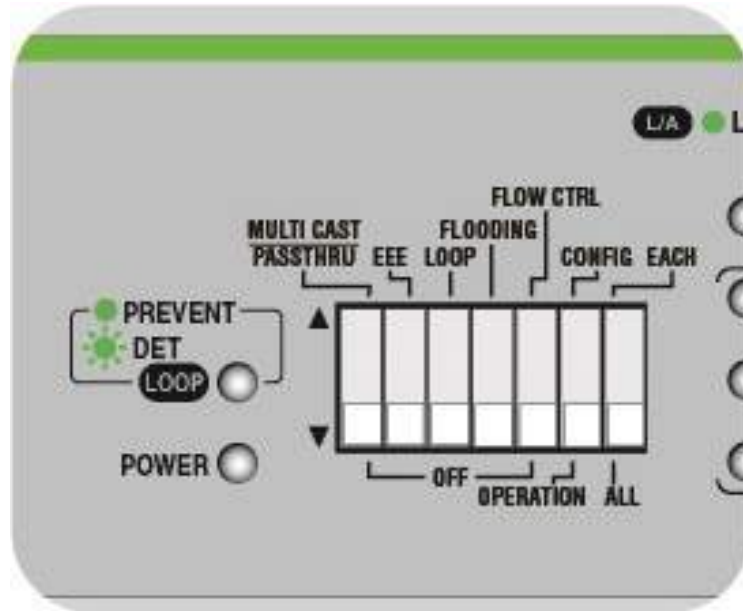

Figure 52. DIP Switch Settings for Disabling Flow Control
1. Set DIP switch # 5 to the DOWN position to disable this feature. See Figure 52.